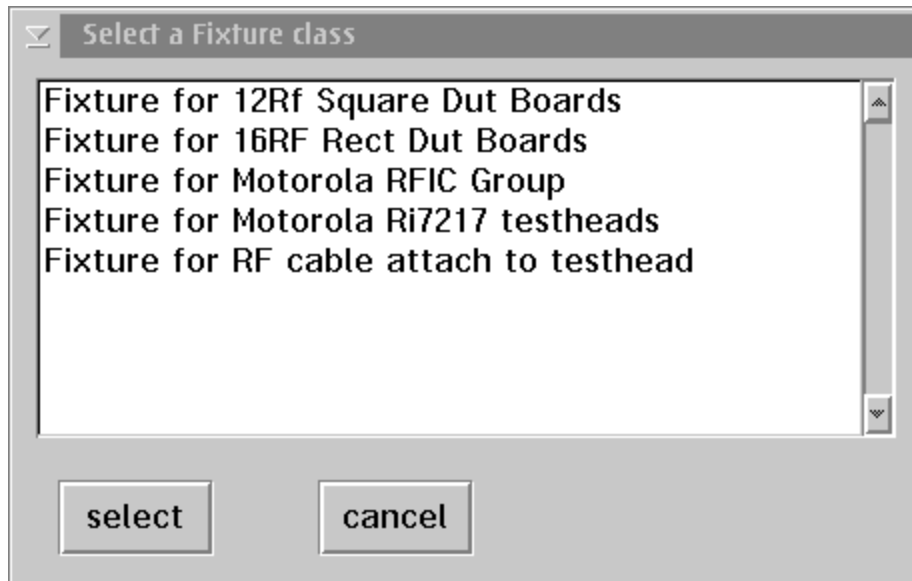

Figure 1
2. A fixture type will be requested with several choices being provided (Fig. 1). After choosing the fixture type, you will be asked to name the new fixture.